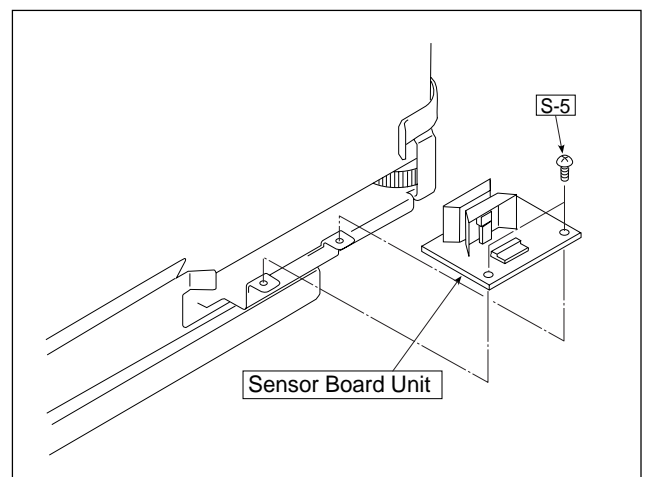

Fig. 15
11) Remove the Sensor Board Unit. (See Fig. 15.)